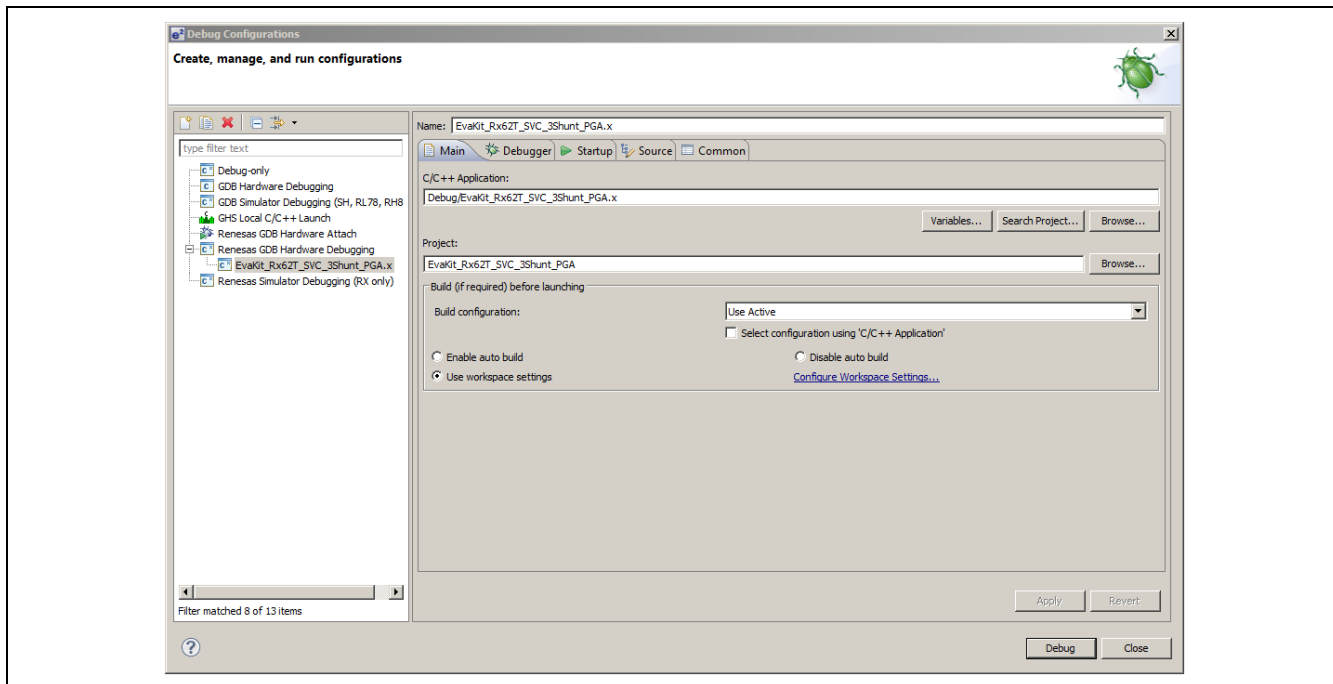

Figure 20 Debug Configuration Main Dialog Box
Step 3. In Figure 20 under the “Main” tab in Debug Configurations, Select the Three-Shunt Sensorless Vector Control with Internal PGA (EvaKit_Rx62T_SVC_3Shunt_PGA) as the “Project” and verify the “Build Configuration” tab is selected as “Debug” and the “Use workspace settings” is selected.